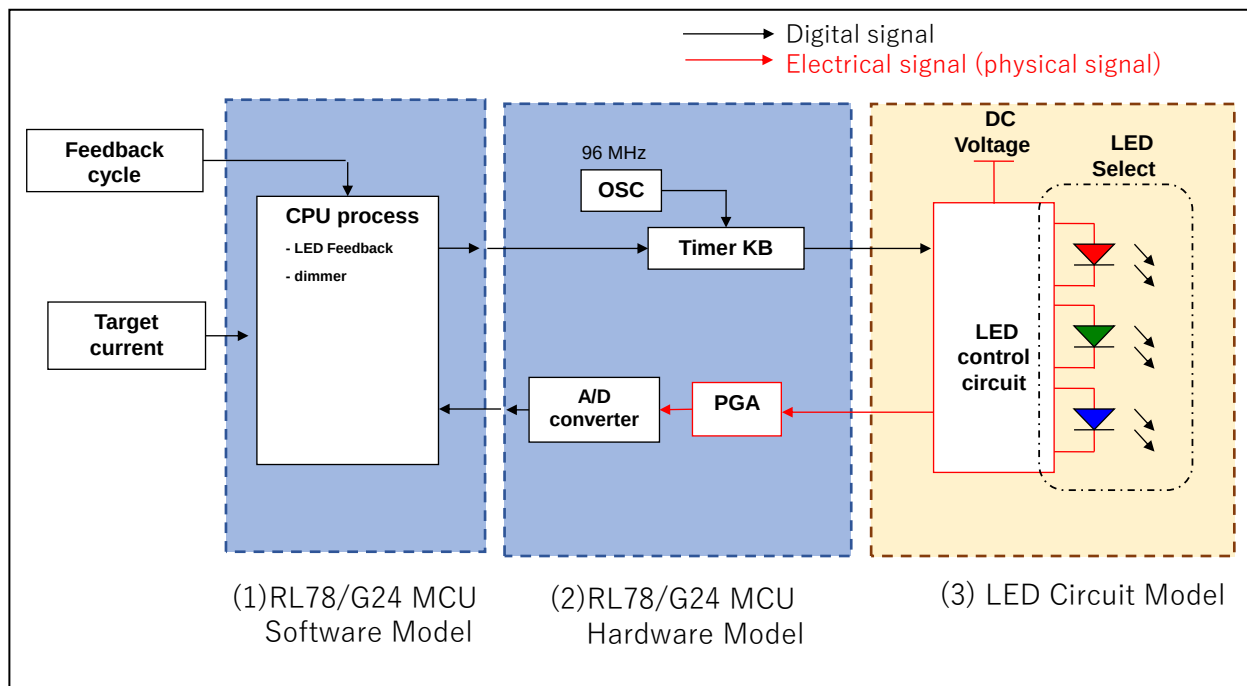

Figure 3.1. Block diagram of LED lighting control system simulation
Block diagram of the LED lighting control system simulation is shown in Figure 3.1.
The functions of (1) through (3) in Figure 3.1 are as follows.
- (1) RL78/G24MCU Software Model